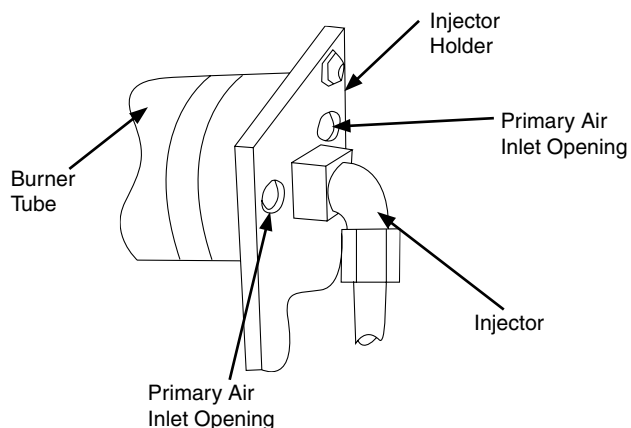

Figure 26a - Injector Holder Front Burner Tube
2. Inspect burner, pilot, and primary air inlet opening on injector holder for dust and dirt (see Figure 26a and 26b).